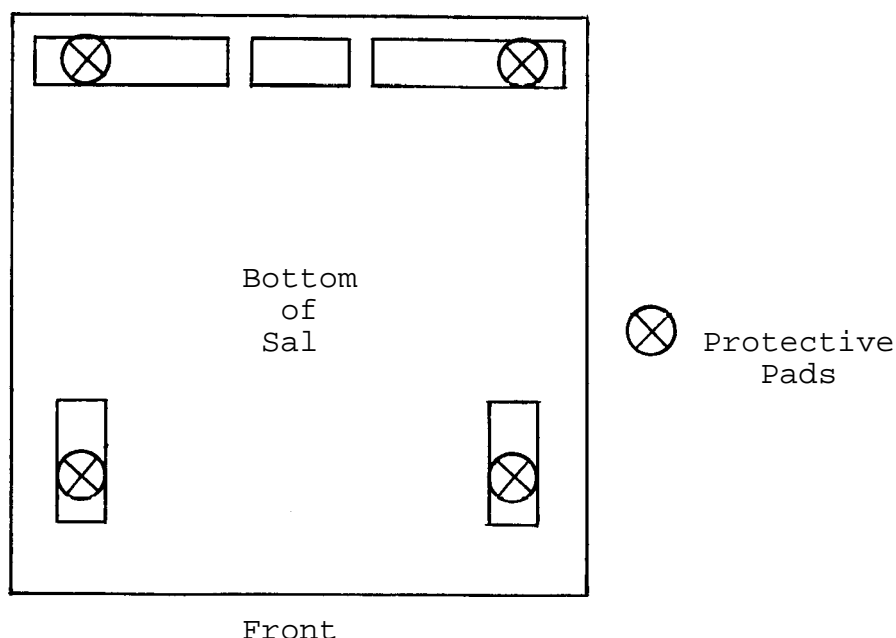

Figure 6-8. Protective foot pad installation.
- () Step 47. Affix self-stick protective pads to bottom of Sal as shown in Figure 6-8.